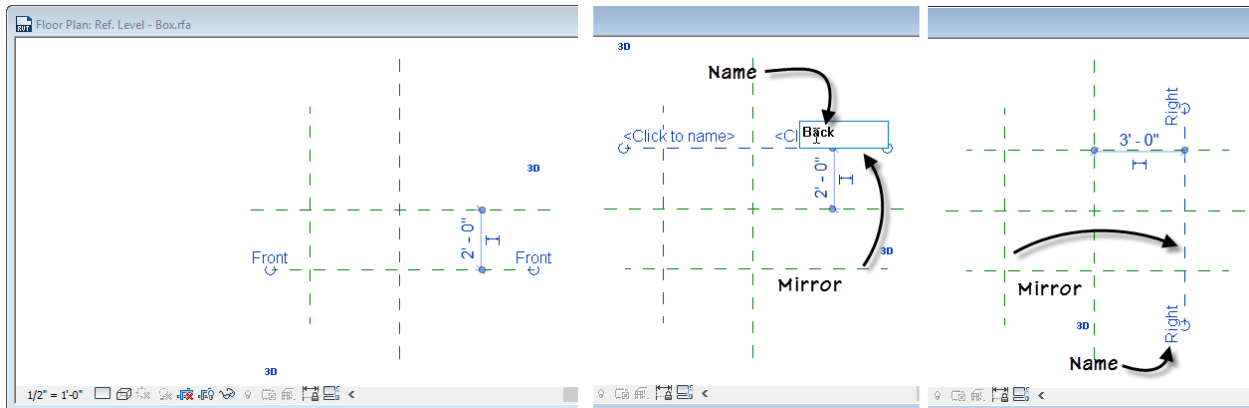

Figure 4
7. Repeat for the remaining one, name it: **Right** (you'll end up with four total, see Figure 4).